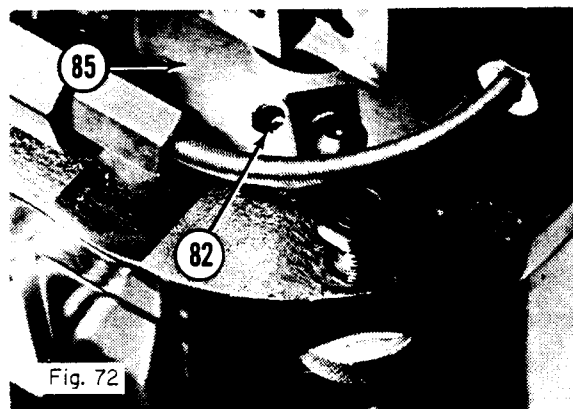

Fig. 72
1. Position the Vertical Rate Control Lever (115) all the way to the right "Retract" (this may be done with hydraulic power off but with air on).
2. With Allen Driver, turn setscrew (82) clockwise until you can hear air escaping.
3. As soon as air starts to escape, back off the setscrew (82) out of the safety air release rocker plate (85) until air stops escaping. (Fig. 72)